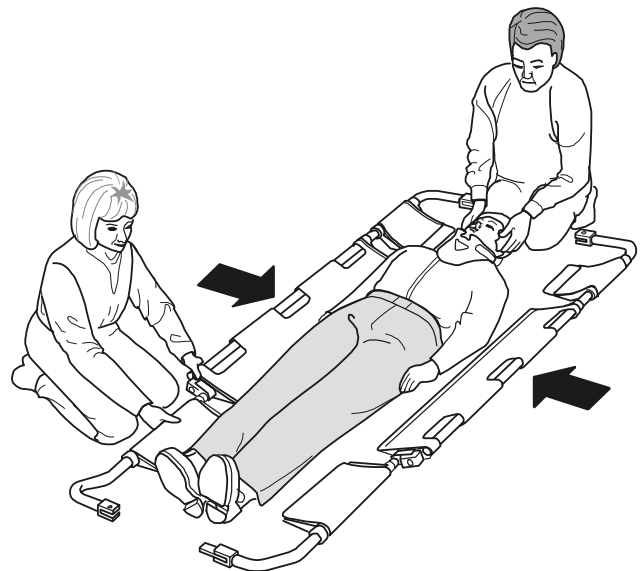

Figure 4 - Applying the Stretcher Halves
3. Position one half of the stretcher on each side of the patient, aligning the center of the head panel with the patient's nose (Figure 4).